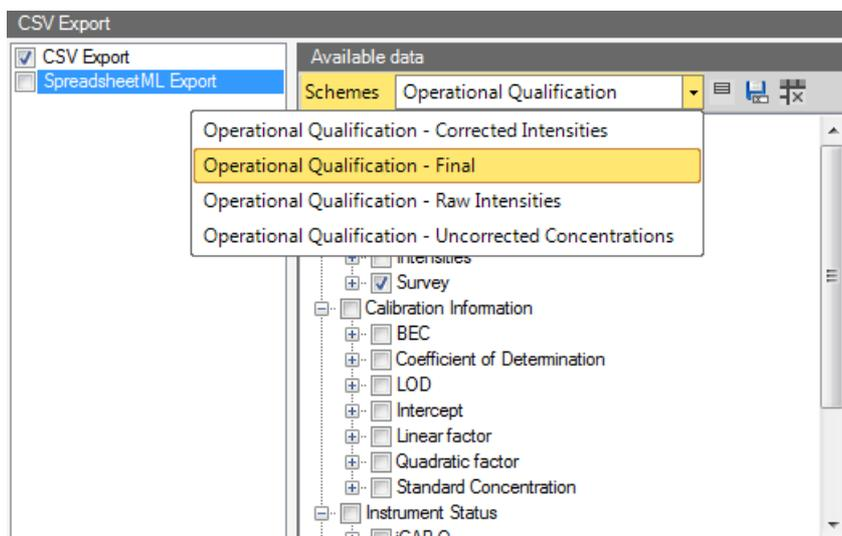

Figure 5-14. Load Export Scheme list box
2. From the toolbar of Available data, open the **Schemes** listbox to select a scheme, see Figure 5-14.